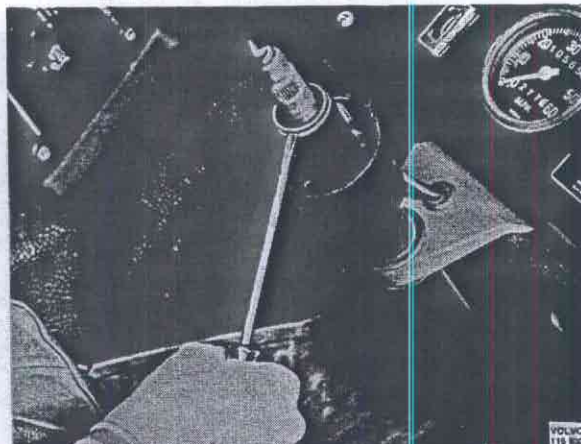

Fig. 64-10. Removing the upper steering shaft bearing
4. Lift off the spring and drive out the bearing with a screwdriver, Fig. 64-10.